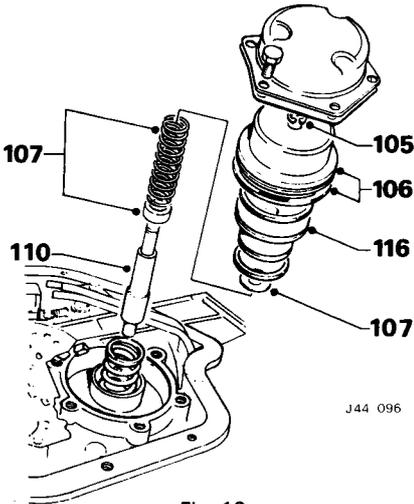

Fig. 16
- 105. Remove the 'E' (Fig. 16) ring retaining the rear servo piston to the rear band apply pin.
- 106. Remove the rear servo piston and seal (Fig. 16) from the band apply pin.
- 107. Remove the washer, spring and retainer (Fig. 16).
- 110. Check the band apply pin (Fig. 16) for cracks and scoring.
- 116. Fit the accumulator piston (Fig. 16) into the bore of the servo piston.